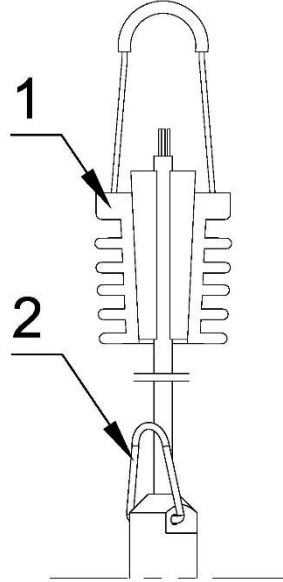

Figure 1. Mounting brackets for probes.
The probe can be hung on the power cable, e.g. by using from the Aplisens SG cable hanger (item 1 in fig. 1). In the event of frequent removal of the probe or when there is a risk of catching on protruding elements during pulling up, it is recommended to hang the probe on a steel cord using the carrying eye (item 2 in Fig. 1.). The probes are immersed in the medium to be measured. A special cable extends above the level of the medium and can be connected directly to probe or to a junction box. If the probe is to be placed in the current or in an area of turbulence, it should be installed in a protective tube.